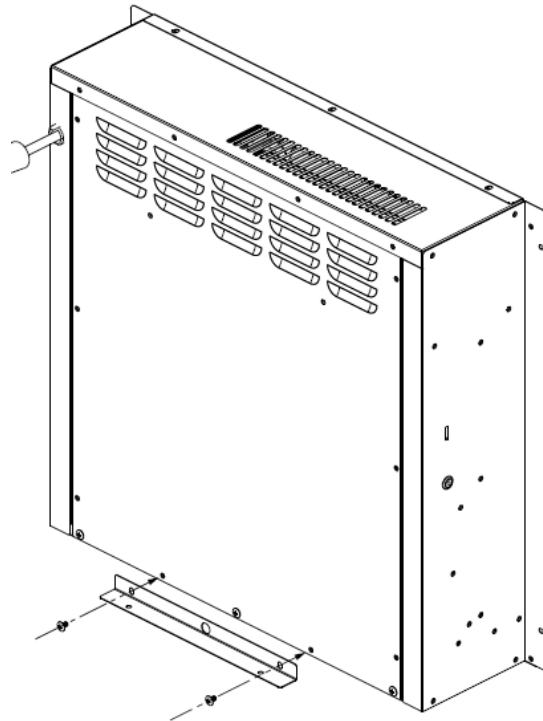

Fig.2
Step 2, fasten the metal bracket (B) at the bottom of back panel with two silver screws. See Fig.2